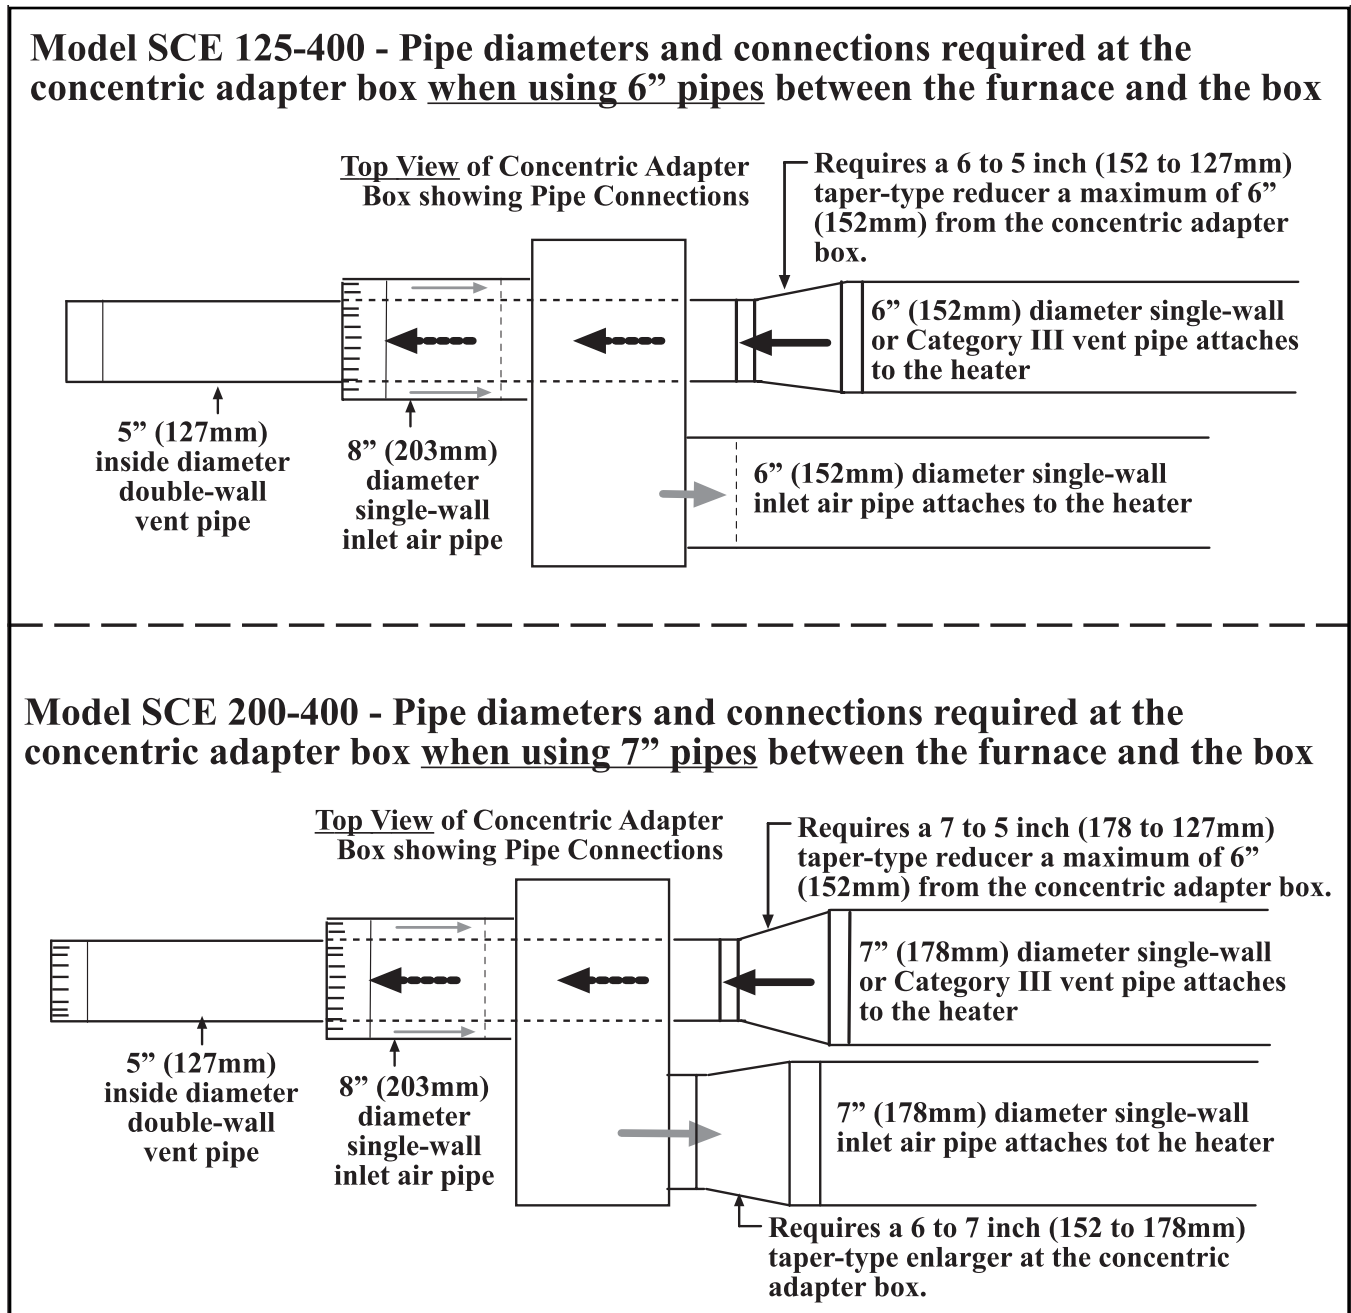

Figure 11. Concentric Adapter Box Connections
When pipe diameters differ, depending on direction of airflow, join the pipes with either a tapered reducer or enlarger as shown in Figure 11.
- g. Install indoor combustion air pipe. If using 6-inch piping, secure single-wall combustion air pipe run to collar on concentric adapter box using sheet metal screws. If using 7-inch piping (sizes 200–400), install tapered enlarger as shown in **Figure 11**.